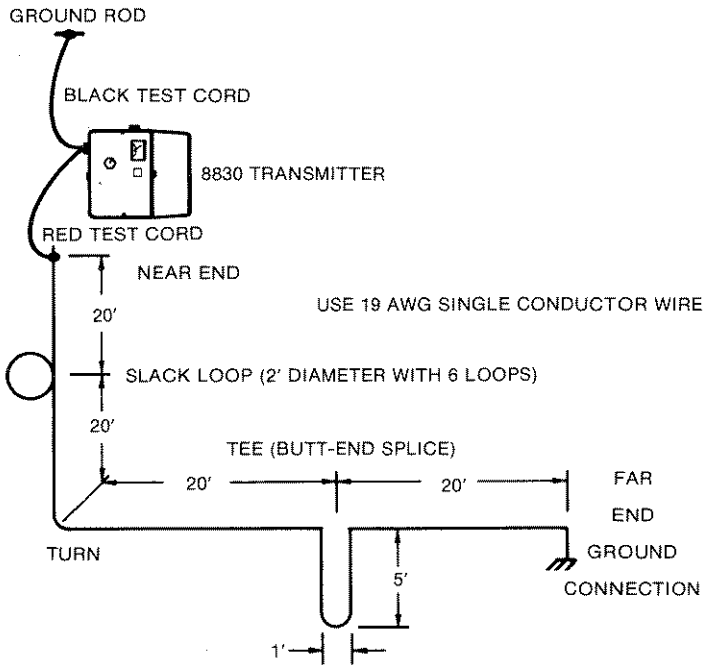

Figure 2-7.
1. Lay out the training exercise (see Figure 2-7).